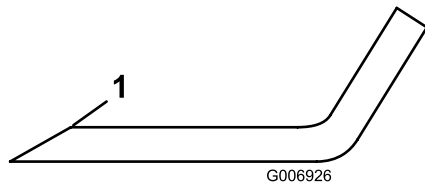

Figure 68
6. If dull or nicked, sharpen only the top cutting edge while maintaining the original cutting angle (Figure 68).
5. Inspect the cutting edges of all blades. Sharpen the cutting edges if they are dull or nicked. Sharpen only the top of the cutting edge and maintain the original cutting angle to make sure that it is sharp (Figure 68).